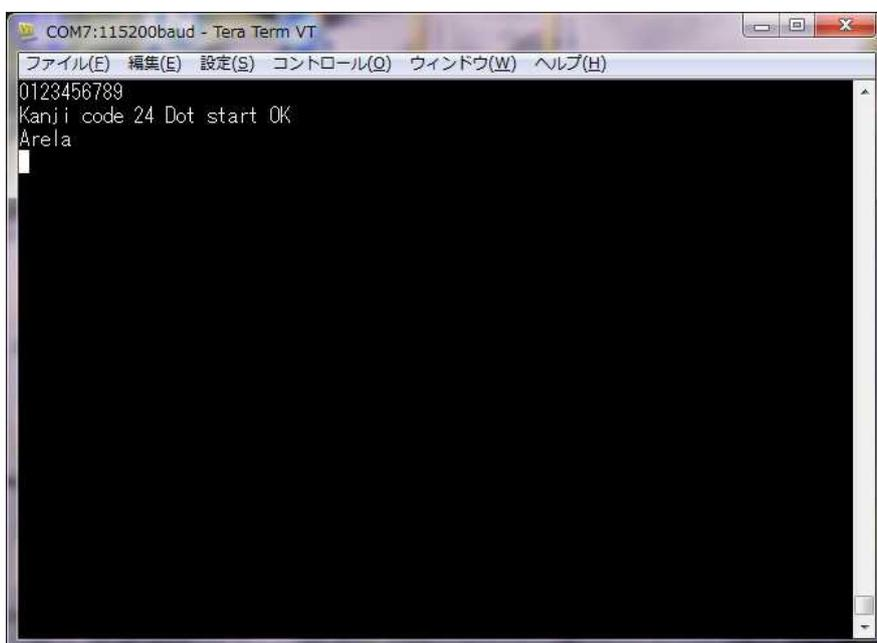

Fig. 5-2
- (5) Input the characters “Arela,” as shown in Fig. 5-2. Then, press the return key to transmit the characters.